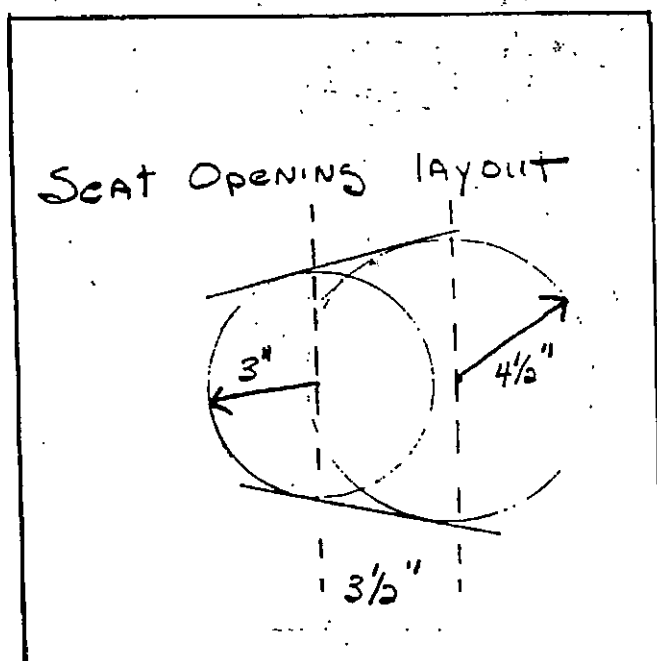

FIGURE 74
- Step 5. Install planking on backside of 2 x 4 seat support to floor joist. Then install seat planking. (Cut seat hole as shown in Fig. 74) Front of hole should be 1/2" back from inside planking.